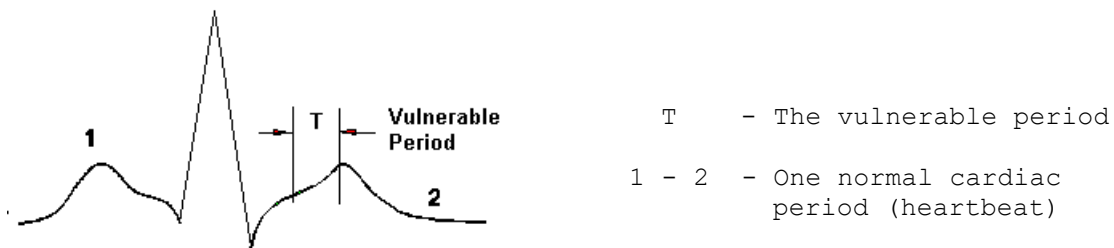

Figure 2 - The cardiac cycle
5. The small electrical impulses which stimulate normal muscular contraction of the heart to follow a regular pattern can be represented on a graph known as the 'Cardiac Cycle', as shown in Figure 2.
6. It is thought that there is a specific period during the cardiac cycle when the heart is most likely to be affected by an electric shock. This period is known as the 'vulnerable period' as indicated in Figure 2. If a person receives an electric shock during the vulnerable period, the probability that the heart will go into ventricular fibrillation is increased.